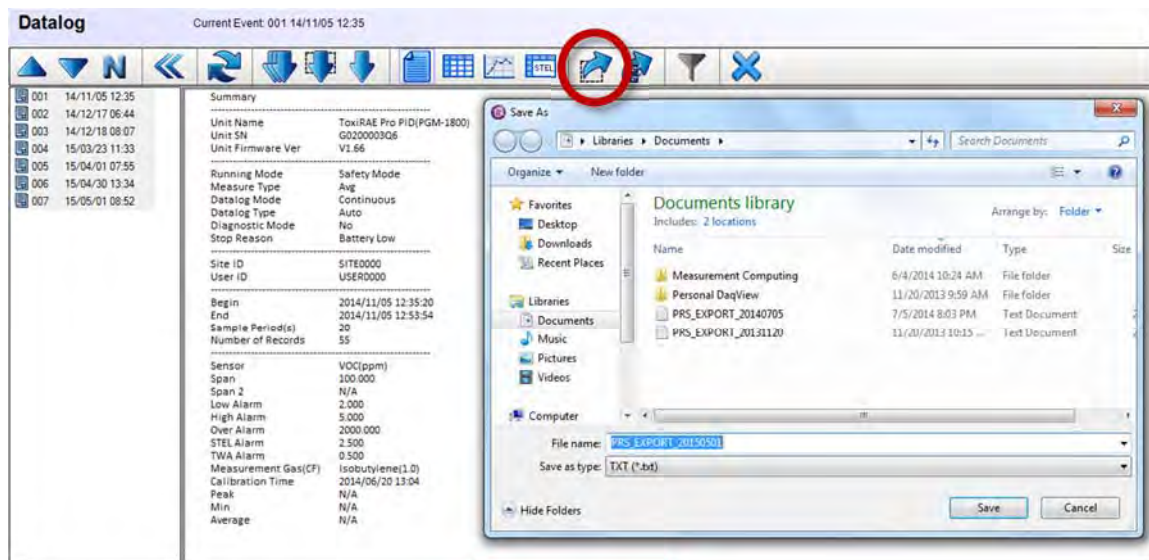

Figure 13
9. Then select '**Datalog**' from the panel on the left and then click the '**Download All**' icon from the row of icons shown in the resulting window (Figure 12). All data files stored on the ToxiRAE Pro PID will be displayed in the column on the left organized by date (Figure 13).
10. Select the file or files to be exported and click the **'Export'** icon (Figure 13) to export the data as a text (*.txt) file. The selected files can then be imported into spreadsheet software for processing, as described in the next section.